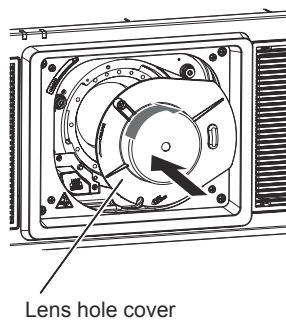

Fig. 2
- 3) **Attach the supplied lens hole cover. (Fig. 2)**